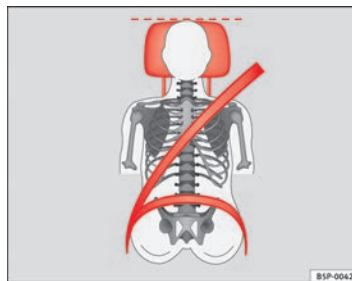

Fig. 12 Correct seat belt and head restraint positions, viewed from front
- The shoulder belt must be positioned around the middle of the shoulder. The seat belt must lie flat and snugly on the torso ⇒ page 23, fig. 12.